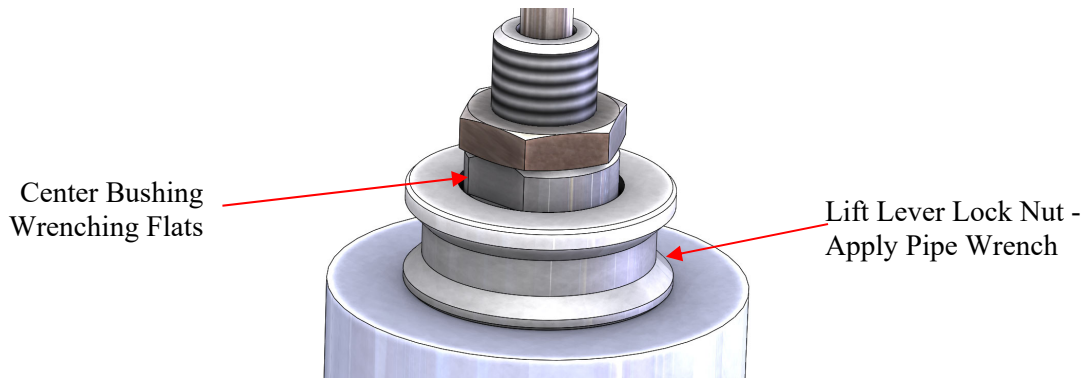

Figure 41: Lift Lever Lock Nut Removal
10. If necessary\*, the lift lever lock nut may be removed by using a wrench on the flats of the center bushing and a pipe wrench on the lift lever lock nut. See Figure 41.